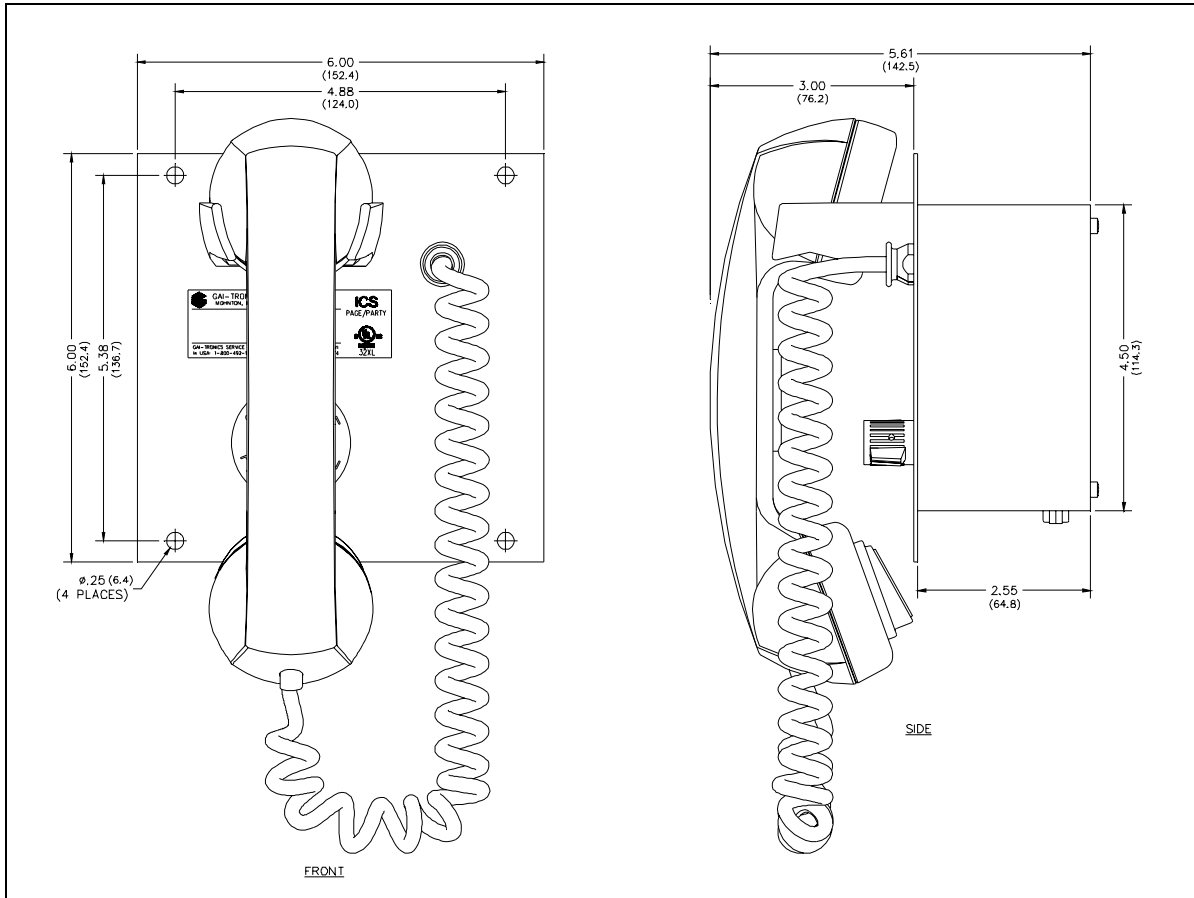
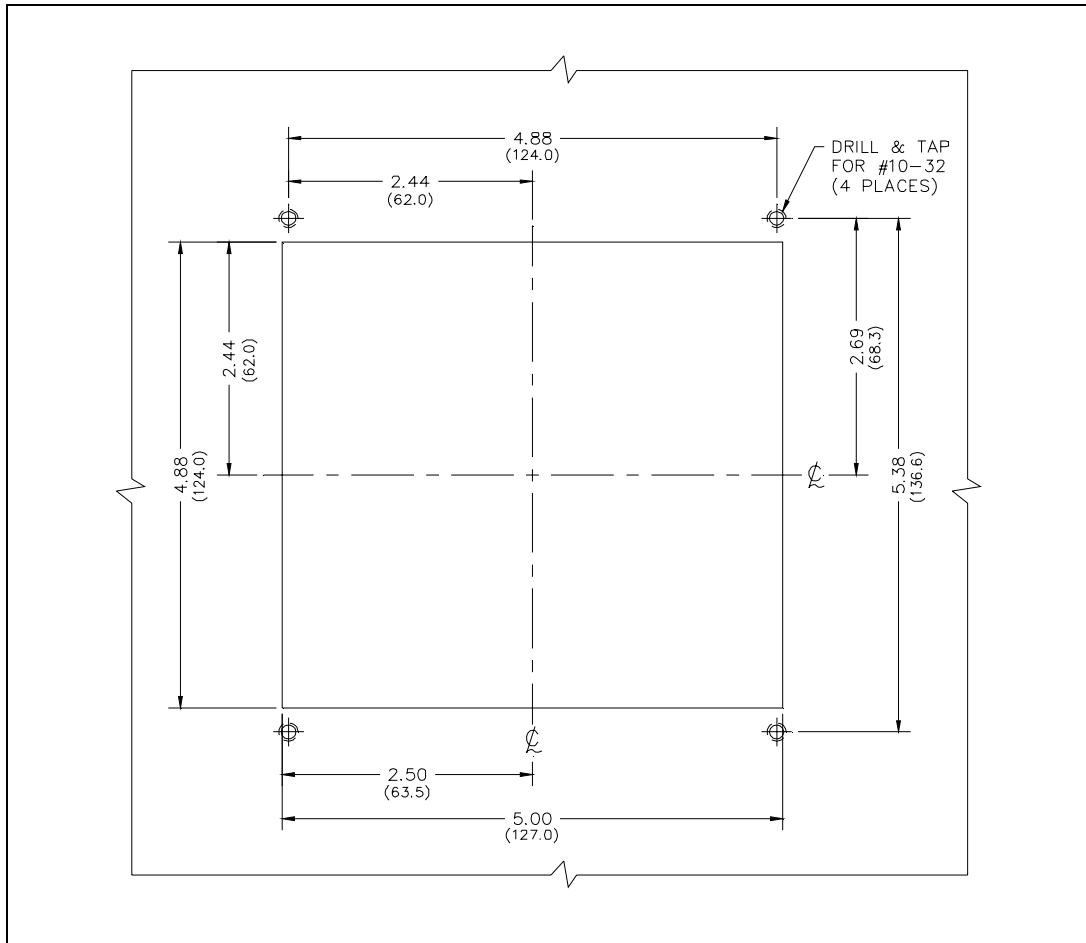

Figure 2. ICS Multi-Party Flush-Mount Subset Outline
Figure 3. Flush-Mount Cutout Detail
1. Refer to Figure 2 for the subset mounting hole locations and overall sizes. Refer to Figure 3 for cutout dimensional requirements.